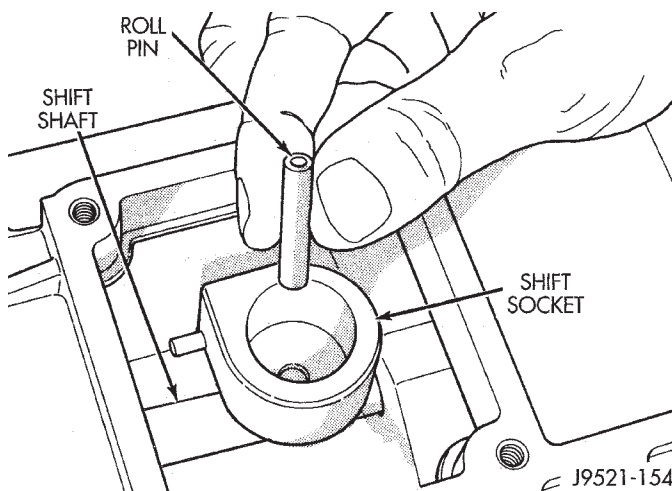

Fig. 112 Starting Roll Pin In Shift Socket
(13) Align roll pin holes in shift socket and shift shaft. Then start roll pin into shift shaft by hand (Fig. 112).